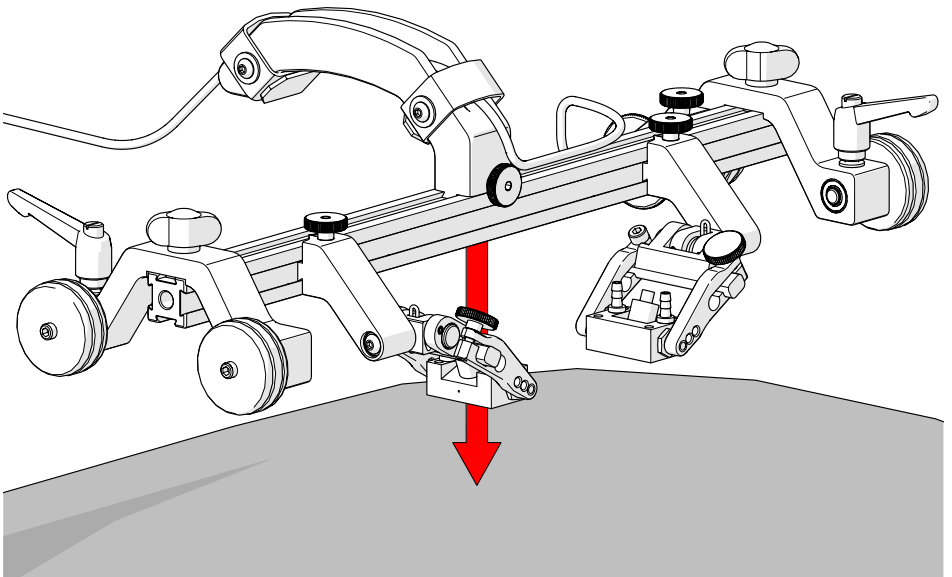

Fig. 12 - Place on scan surface
5. Place the configured **STIX** on the scan surface (Fig. 12).